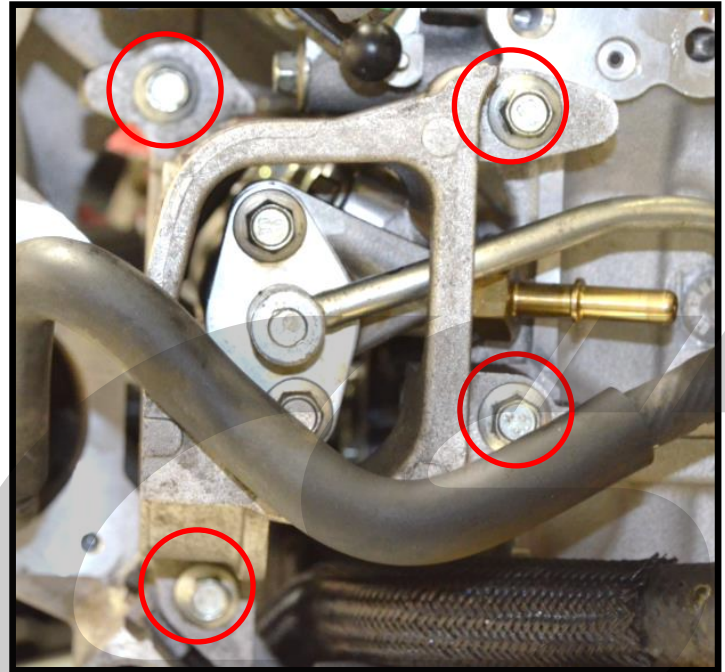

Figure 5a
- a) Use the 10mm socket and ratchet to remove the four bolts holding the fuel rail shield (circled in red in Figure 5a). The fuel rail shield will not be reinstalled.